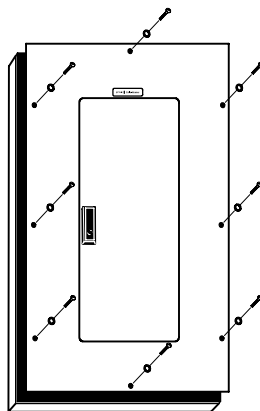

Figure 18. Bypass Cabinet Front Cover
5. Remove the bypass cabinet front cover (see Figure 18).